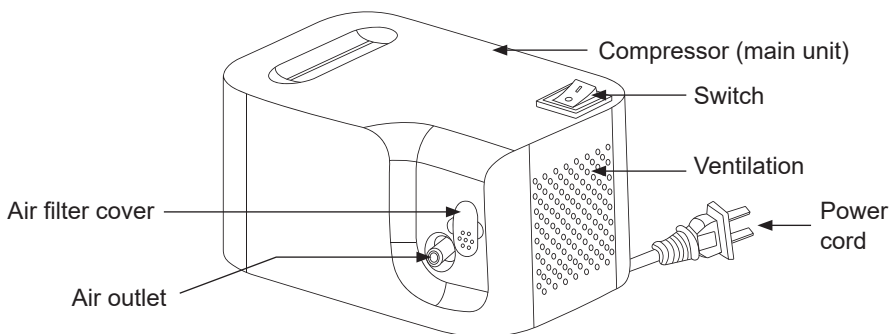

Figure 1: Main unit and parts
- a) Main unit and parts (Figure 1)